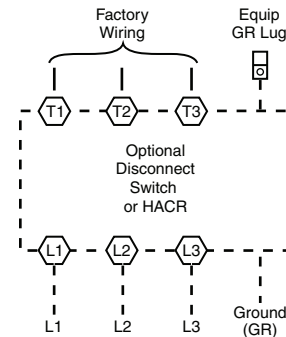

Fig. 51 — Power Wiring Connections
Size wire based on MCA (Minimum Circuit Amps) on the unit informative plate. See Fig. 51 for power wiring connections to the unit power terminal block and equipment ground. Maximum wire size is 2/0 AWG per pole.
3. Install power lines to terminal connections as shown in Fig. 51 on page 38.